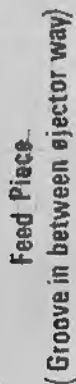

Fig. 2.—The piston group
13. The piston group (see Fig 2).—To strip it:—